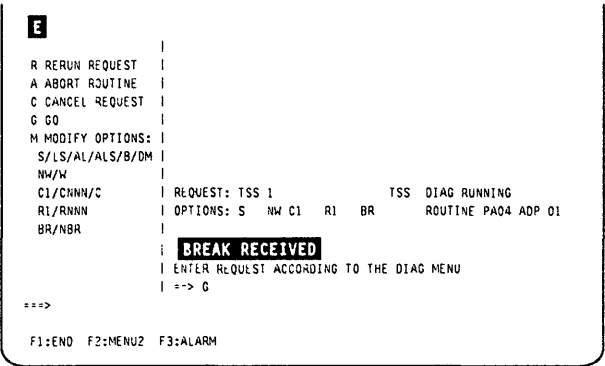

Figure 3-5. Diagnostic Execution Modify Screen
2. After a short wait, you receive the 'BREAK RECEIVED' message. (See the screen on Figure 3-5 on page 3-8).